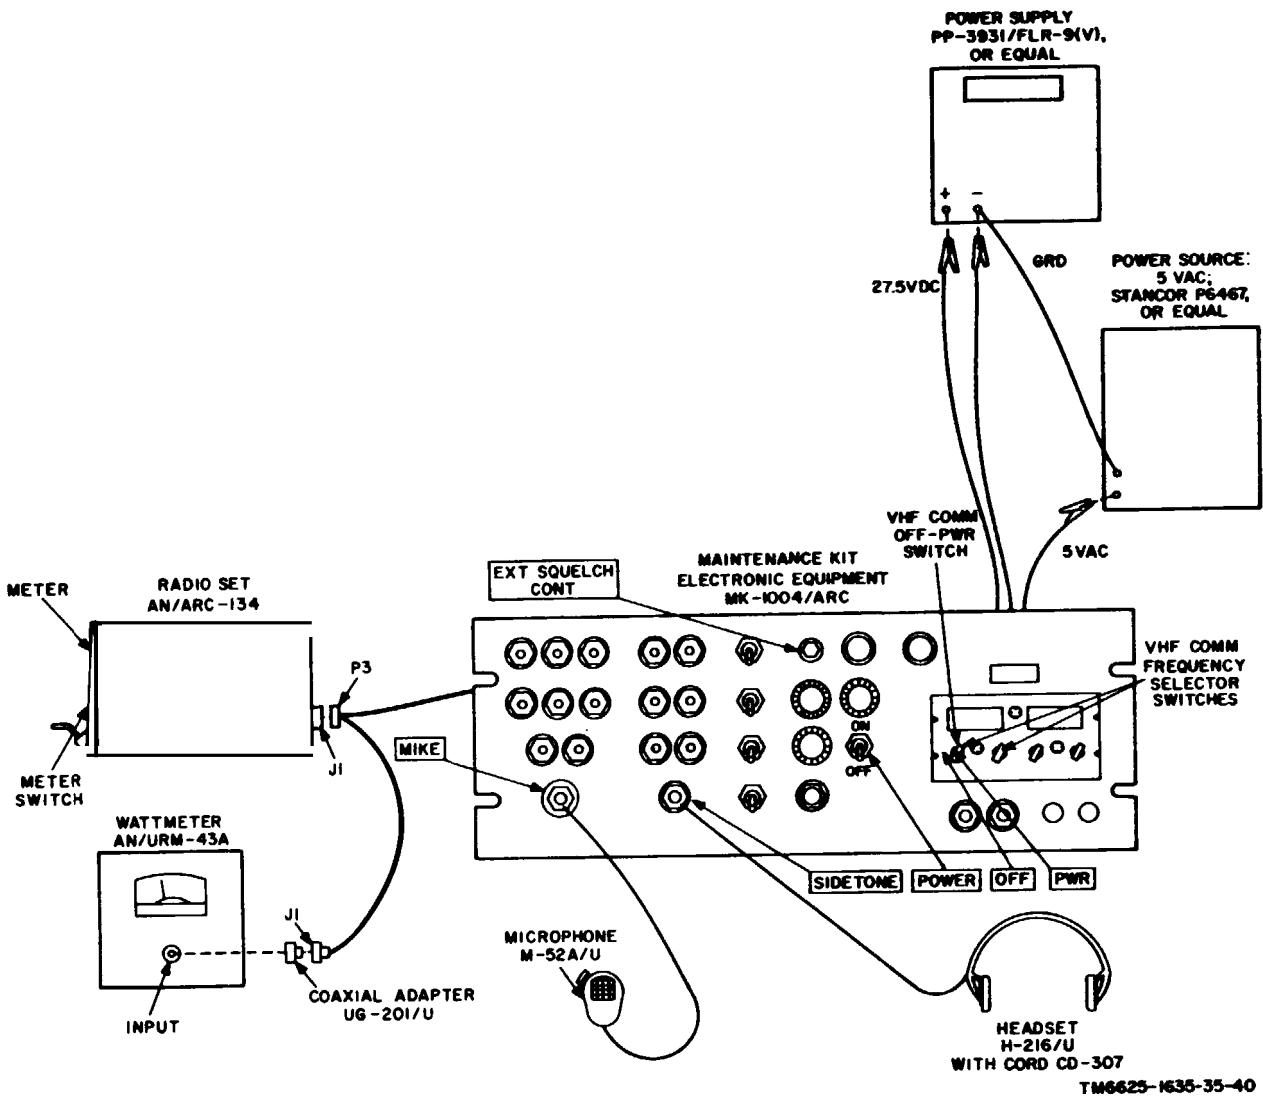

Figure 4-4. Sidetone circuit check, test setup, unmodified maintenance kit.
- (1) Radio Set AN/ARC-134.
- (2) Power supply.
- (3) Ac power source (unmodified equipment).
- (4) Wattmeter, Radio Frequency AN/URM-43A.
- (6) Headset (unmodified equipment).
- (7) Adapter.
b. Test Connections and Conditions. Connect the equipment as shown in figure 4-4 or 4-41. On modified equipment, place the G-1611D/AIC PVT-INT switch in position 3, the RECEIVERS 3 switch ON, all other RECEIVERS switches off, and position the VOL control as required. These settings must be maintained during the test.